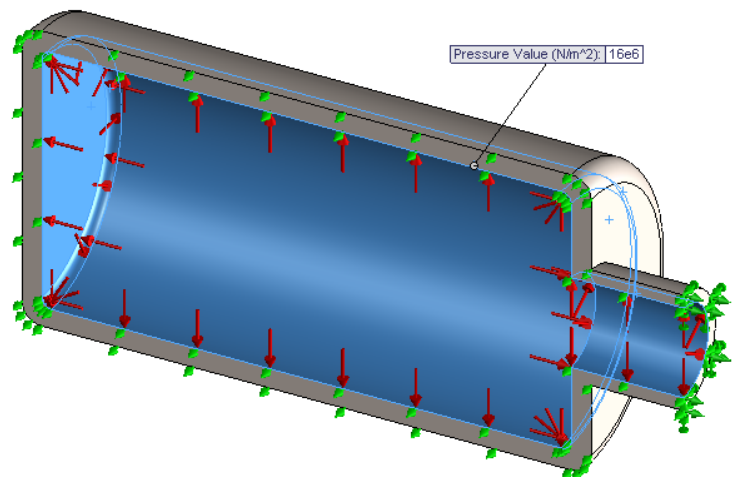

Figure 4 – Internal pressure applied to six faces within the thick-wall pressure vessel.
14. Click on the check mark to close the Pressure property manager. The model should appear as shown in Fig. 4.